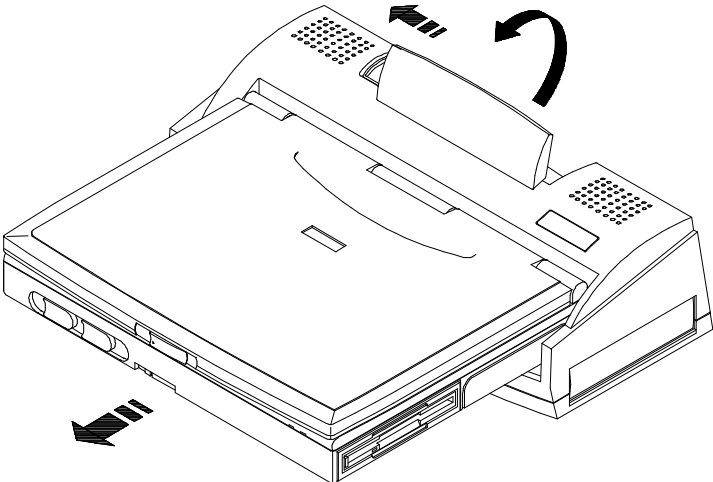

Figure 6-14: Removing the Notebook from the Port Replicator
2. Slide the Release latch (to the left) in the direction of the arrow shown in *Figure 6-14*. You should be able to pivot the Release lever up.